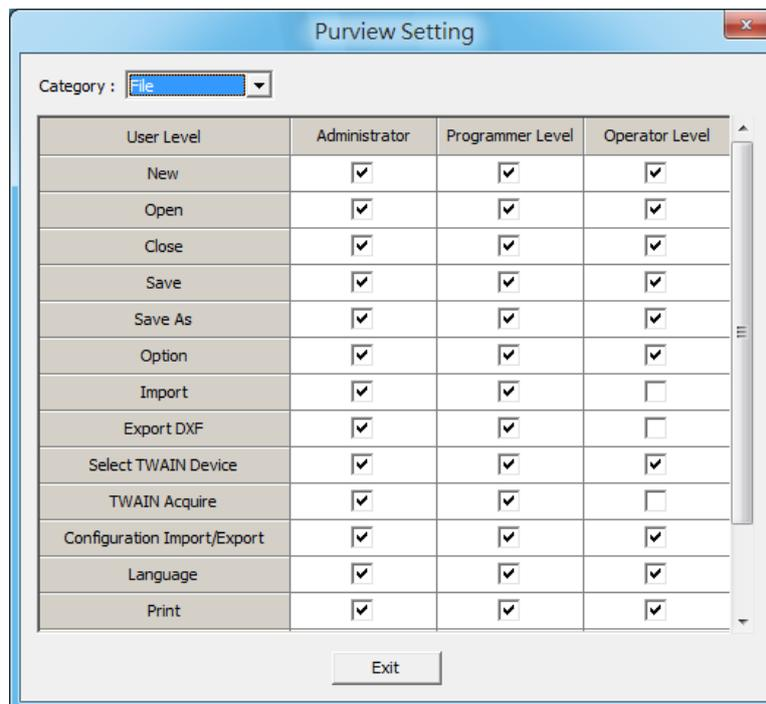

Fig. 1.6.11
**Purview Setting:** Need administrator authority. Allow administrator to assign different access right to different level user. See Fig 1.6.11. Administrator could assign the following parts: File, Edit, Draw, Image, Color, Execute, View, Property table, Tracker.